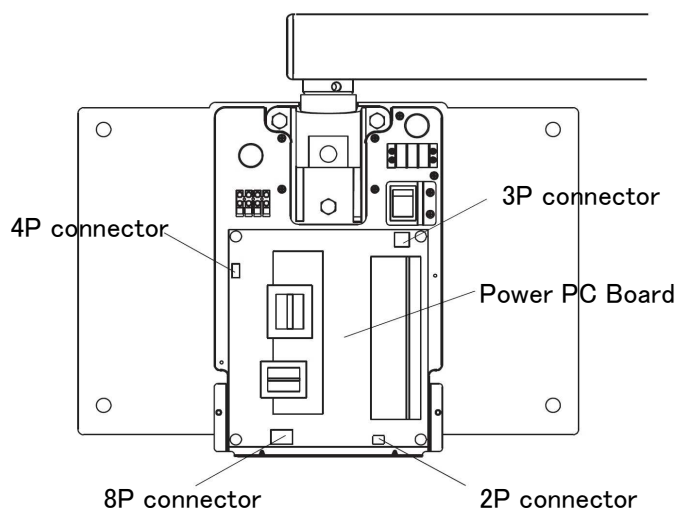

Fig. 6
3. Disconnect the four connectors (2P, 3P, 4P and 8P) from the power PC board. (Fig. 6)